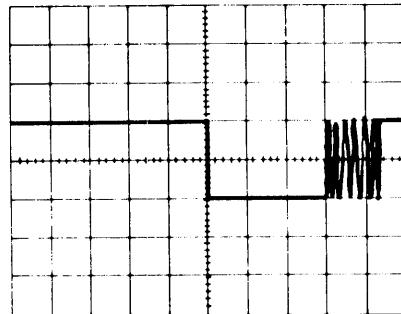

Figure 7-11 Phase Locked Loop Gain
7.4.3 Phase Locked Loop Gain (R12) (Figure 7-11)
4. Uncalibrate the time base. Vary the time base to display the entire signal, including all the ‘jitter’, over 9 major divisions on the scope (Figure 7-11).
5. Horizontally position the leading edge on the first left hand graticule line and verify that the entire signal with all of its ‘jitter’ is displayed (Figure 7-11).